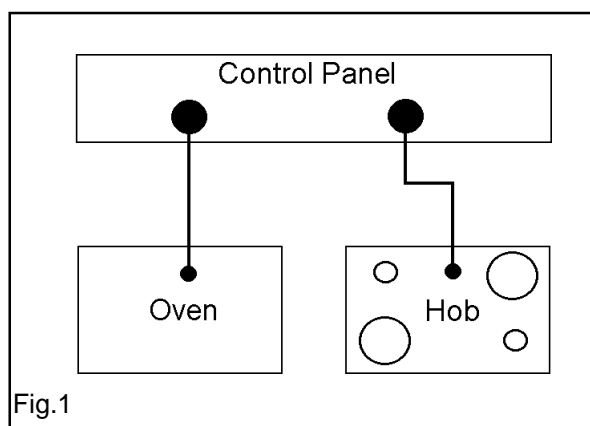

Fig.1
- i) By connecting the oven and hob separately to the cooker point. Oven and hob units should be separately connected to a control panel. In this case the cooker should be operated from 6mm² twin core, and earth, PVC insulated multicore cable. See Fig. 1.